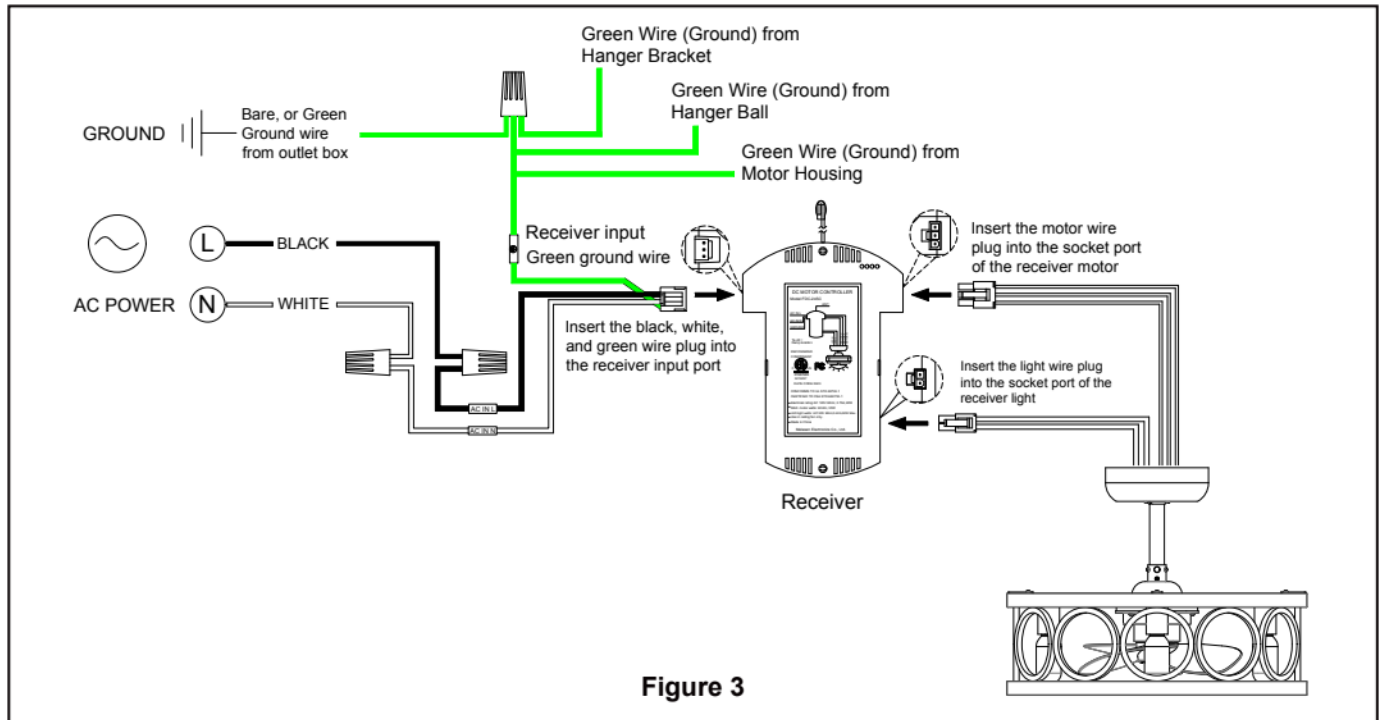

Figure 3
2. Connect green wires from Receiver input Green ground wire and hanger bracket and hanger ball and motor housing to bare (ground) wire using wire connector. Connect black wire from Receiver input marked "AC IN L" to black (ungrounded) supply wire using wire connector. Connect white wire from Receiver input marked "AC IN N" to white (grounded) supply wire using wire connector. Connect the motor plug wire to the receiver output corresponding motor female socket. Connect the light plug wire to the receiver output corresponding light female socket. (Figure 3)